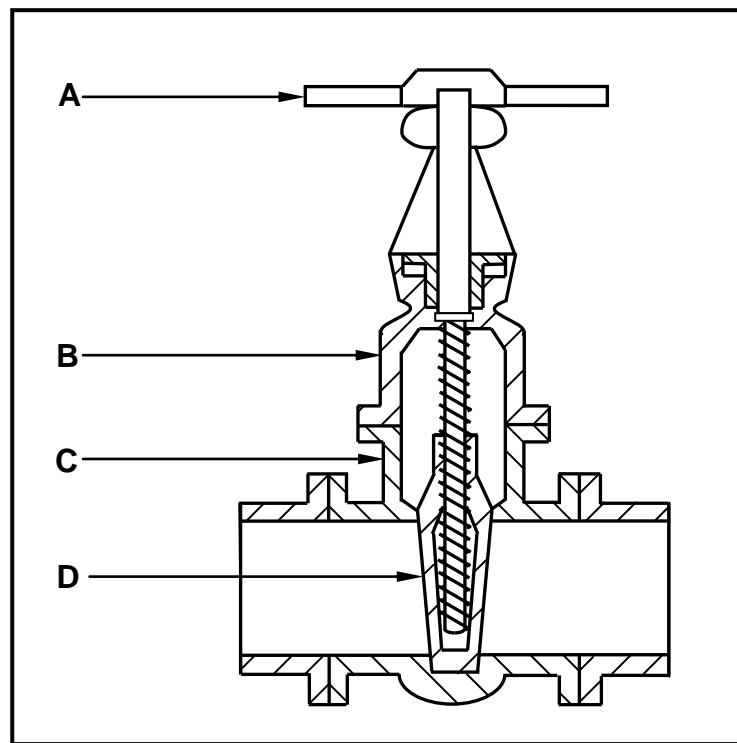

FIGURE 4.1
- 4.1 FIGURE 4.1 below is a drawing of a device used in cold-water systems. Study FIGURE 4.1 and answer the questions that follow.
- 4.1.1 Name the device in FIGURE 4.1. (1)